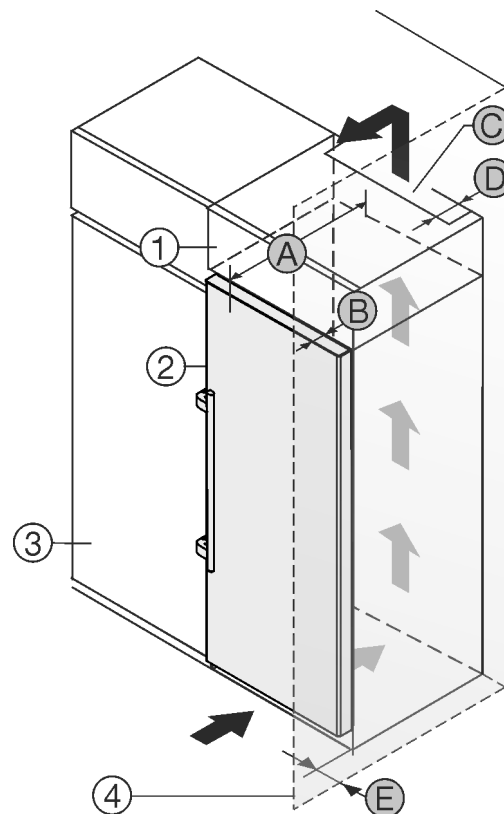

Fig. 1
- (1) Top cabinet
- (2) Appliance
- (3) Kitchen cabinet
- (4) Wall
- (B) Door depth
- (C) Ventilation cross section
- (D) Distance to the back of the appliance
- (E) Distance to the side of the appliance
- (A) Appliance depth
There must be a ventilation shaft at the depth Fig. 1 (D) of the back of the top cupboard over the entire width of the top cupboard.
The ventilation cross-section Fig. 1 (C) must be maintained under the ceiling.
If the appliance is set up with the hinges next to a wall Fig. 1 (4), the distance between the appliance and the wall must be at least 57 mm. This is how far the handle protrudes when the door is open.
In order to be able to fully open the door, the appliance must protrude by the depth of the door Fig. 1 (B) from the front of the kitchen cabinet. The appliance may protrude further depending on the depth of the kitchen cabinets Fig. 1 (3) and whether wall spacers are used.